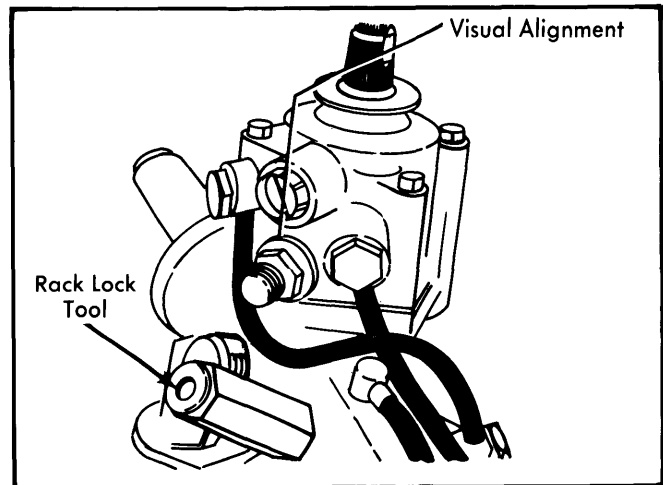

Fig. 4 Valve Housing Alignment & Rack Lock
**Disassembly** – 1) Lock rack by removing plug and inserting suitable tool (41-103). Position pinion with flat side aligned with upper bore in valve housing (See Fig. 4).